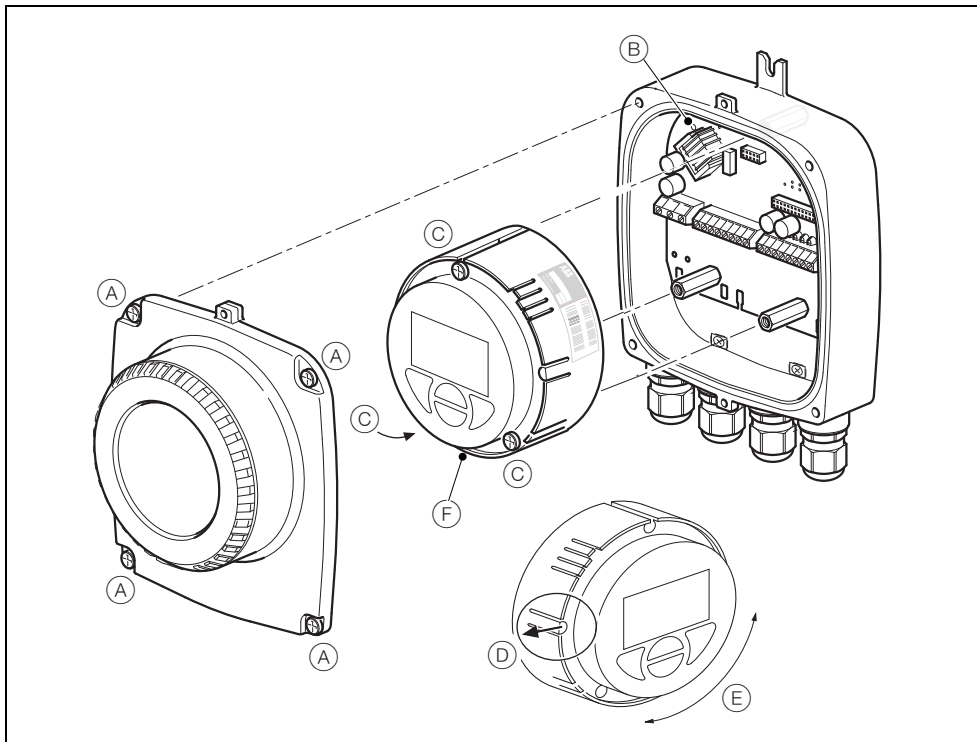

Fig. 4.8 Accessing the Transmitter Terminals
Referring to Fig. 4.8:
1. Confirm that the cartridge to be fitted is of the correct power supply and for the correct communications bus type (HART, PROFIBUS or Modbus) by checking the label (A) on the side of the cartridge:
2. Align the three cartridge screws (B) with the cartridge housing pillars and tighten the screws carefully until the cartridge is held in position.
3. If necessary, rotate the cartridge to the required orientation before refitting the cover – see Fig. 4.8, page 18 for details.